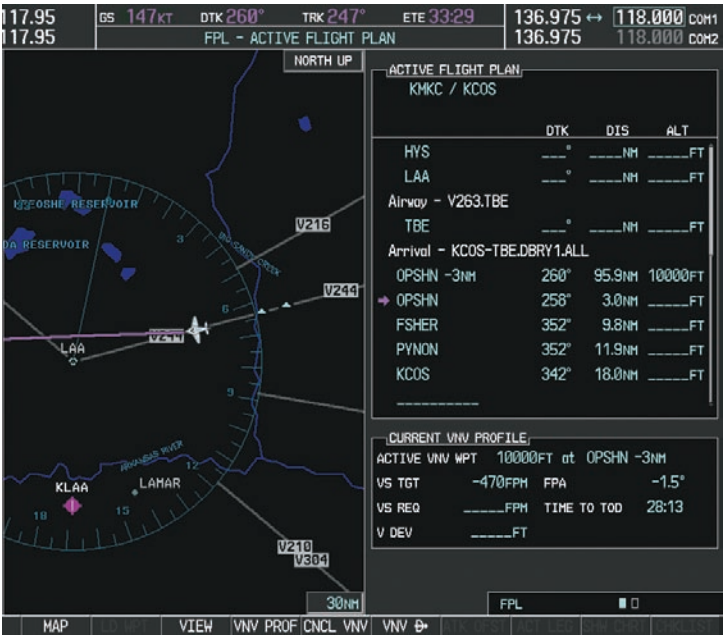

Figure 5-119 Direct-to Active
h) Press the **ENT** Key twice to activate the direct-to. Note, in Figure 5-119, the magenta arrow indicating the direct-to OPSHN after the offset waypoint for OPSHN. The preceding offset waypoint indicates the offset distance and altitude that were previously entered. The remaining waypoints in the loaded arrival procedure have no database specified altitudes, therefore, dashes are displayed. Keep the CDI centered and maintain a track along the magenta line to OPSHN.